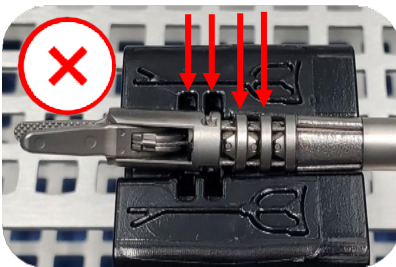

FIGURE 21: Shaft placement in AXIUS™ Instrument Tray. Correct orientation (TOP) shows the jaws open and alignment of the gimbal with the two slots.
- Gimbal guides (FIGURE 17) are aligned in slots (FIGURE 21).
FIGURE 20: Black piece that holds the gimbal can slide along the slot in AXIUS™ Instrument Tray to accommodate different shaft lengths. Slide to position device as shown in FIGURE 21.